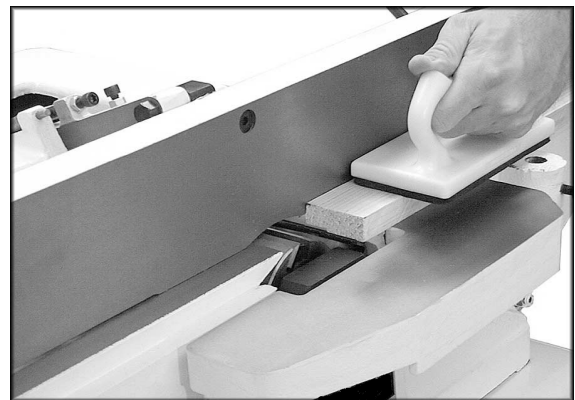

Figure 28
1. Adjust the fence so that the distance between the end of the knives and fence is equal to the width of the rabbet (Fig. 28).